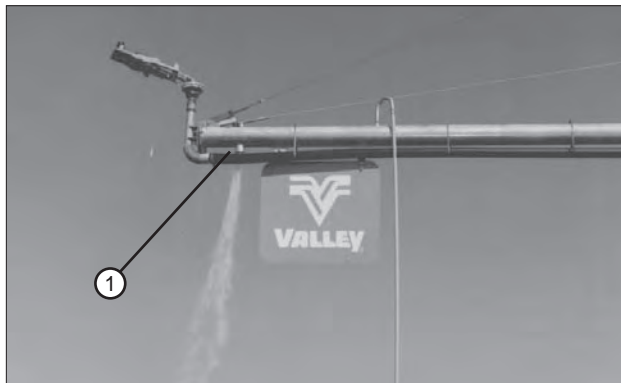

Figure 36-1 1. Overhang Drain
4. Remove plugs from the overhang drain. See figure 36-1.